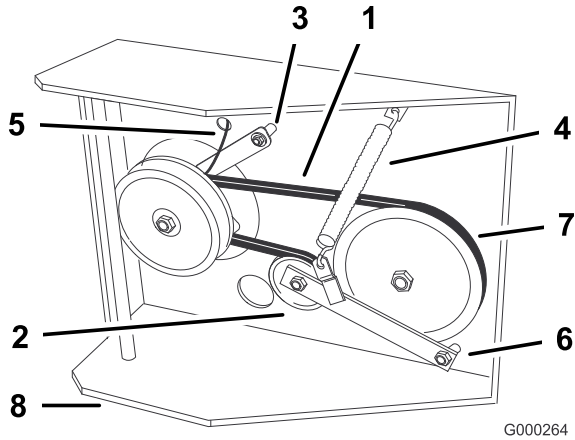

Figure 43
7. Disconnect the clutch retainer from the engine deck (Figure 43).
8. Unhook the tension spring from the side of the frame (Figure 43).
12. Install the tension spring between the idler arm and the frame bracket (Figure 43).
13. Install the clutch retainer to the engine deck (Figure 43).